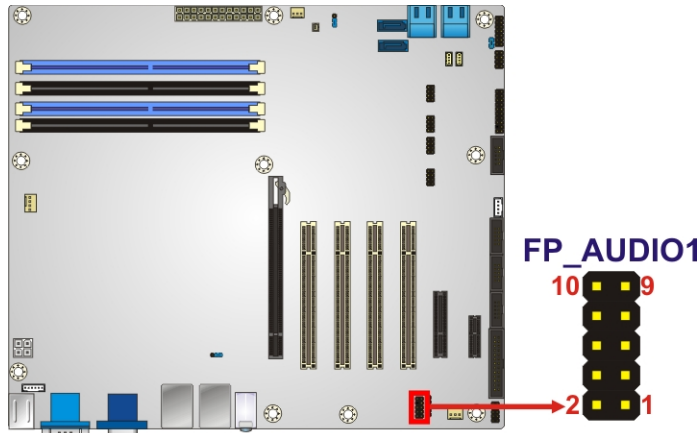

Figure 3-9: Front Panel Audio Connector Location
- CN Location:** See Figure 3-9